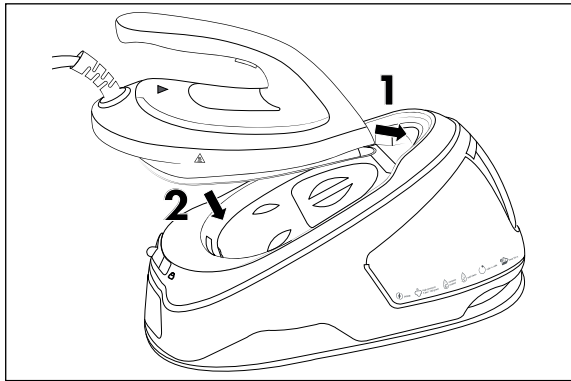

Fig. 7
- 3) Place the steam iron **1** on its base **17**, first inserting the tip of the soleplate **4** into the opening at the front edge of the base **17**. Then place the appliance on the base **17** (see Fig. 7).